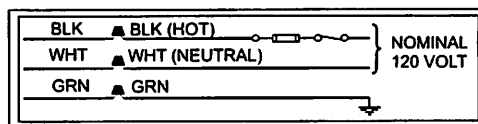

FIGURE 12: Line Wiring Connections
2. Remove the screws retaining the junction box cover. Route the power wiring through the opening in the unit into the junction box with a conduit connector or other proper connection. In the junction box there will be three wires, a Black Wire, a White Wire and a Green Wire. Connect the power supply as shown on the unit-wiring label on the inside of the blower compartment door or Figure 12. The black furnace lead must be connected to the L1 (hot) wire from the power supply. The white furnace lead must be connected to neutral. Connect the green furnace lead (equipment ground) to the power supply ground. An alternate wiring method is to use a field provided 2" (5.08 cm) x 4" (10.2 cm) box and cover on the outside of the furnace. Route the furnace leads into the box using a protective bushing where the wires pass through the furnace panel. After making the wiring connections replace the wiring box cover and screws.